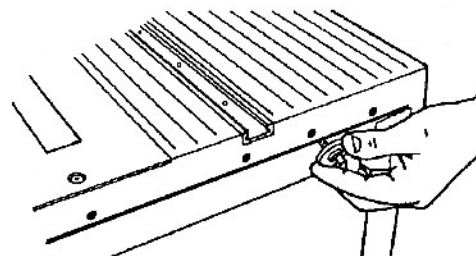
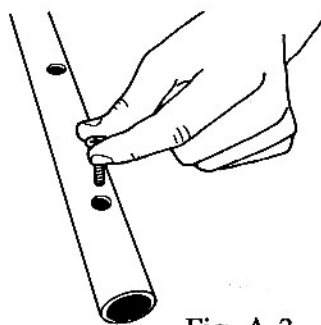

Fig. A-2
Fig. A-3
3. Attach a thumb screw to the hole located in the right outfeed edge of the table, directly opposite the one just installed. See Fig. A-2.
5. Orient yourself facing the front of the Sawsmith 2000. Line up the fence tube (390) holes with the mounting holes in the table. Make sure that the large holes are facing out (toward you) and the small holes are facing the table.
6. Insert a screw (394)) through the first left hand hole in the fence tube, as shown in Fig. A-3.